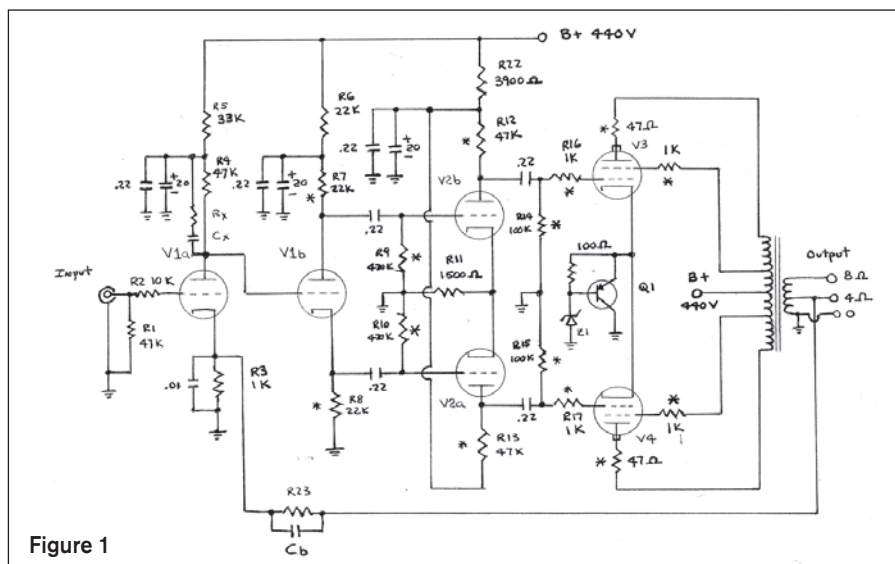

Figure 1
that a close match of corresponding components is important. To facilitate this you should obtain a pack of resistors of a given value, and find two that most closely match by using an ohmmeter. I denote these matched pairs with an asterisk (*), as in **Fig. 1**.
2. For cathode bias of V3 and V4, I recommend removing R18 and R19, C9 and C10 and replacing with the simple circuit shown in **Figs. 1** and **4**. See that Q1 is a TIP107 Darlington transistor, which comes in a TO-220 package that you can bolt directly to